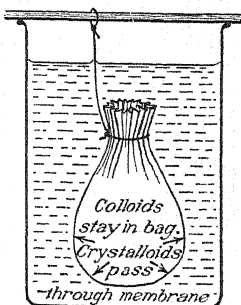

FIG. 240.— Colloids may be separated from crystalloids by dialysis.
**407. Colloidal Suspensions and True Solutions.** There are several ways in which colloids in suspension differ from true solutions. On the other hand, there are some ways in which they resemble one another in their behavior. In 1861 Graham separated colloids from crystalloids by *dialysis*. He inclosed both colloids and crystalloids in a parchment bag which he suspended in water. (See Fig. 240.) The crystalloids passed through the parchment readily by osmosis, but the colloids were retained almost entirely. This method of separation indicates that the particles of solute are much smaller than the particles in a colloidal suspension. The colloidal particles are probably *aggregates* of molecules, or very large single molecules. In the following table, the behavior of colloidal suspensions is compared with or contrasted with that of true solutions: